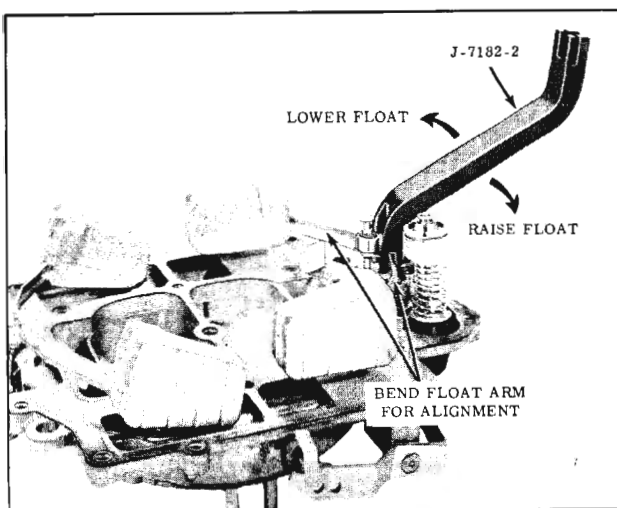

Fig. 9-18 Adjusting Float Level (Primary Shown)
3. If necessary to adjust, bend the float arm as indicated in Fig. 9-18.